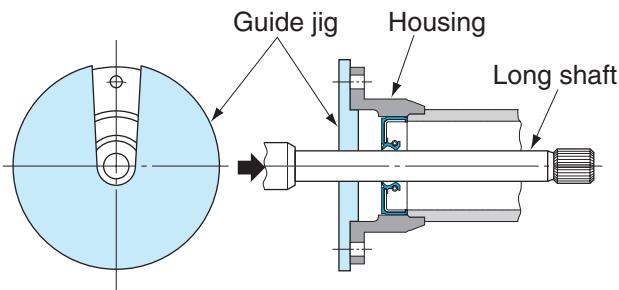

Fig. 1.7.8 Guide jig for inserting of long shaft into seal bore
- 8) When heavy housing with seal is assembled with shaft, or when long or heavy shaft is inserted into seal, seal damage should be avoided. Use the following guide jig to get centering (Figs. 1.7.8 and 1.7.9).